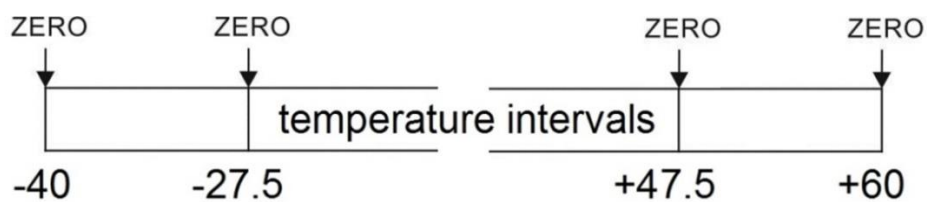

Fig. 11. Scheme of the temperature coefficients adjustment
5. When temperature is stable, for each of 9 points of temperature range send <ZERO> command by which current temperature ADC value and ratio S_i value (see Table 15) are written to sensor memory (see Fig. 11).